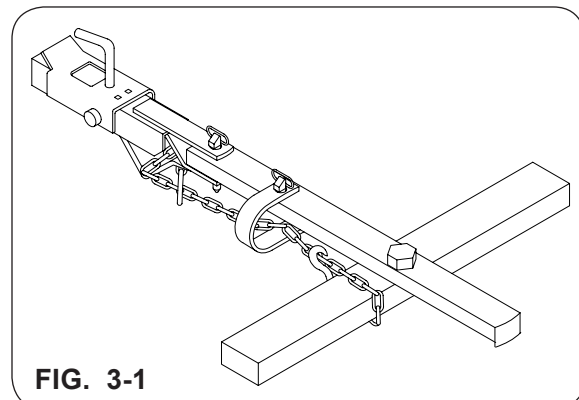

FIG. 3-1
- B. Install transport chain 97436 (as shown in Fig. 3-1).